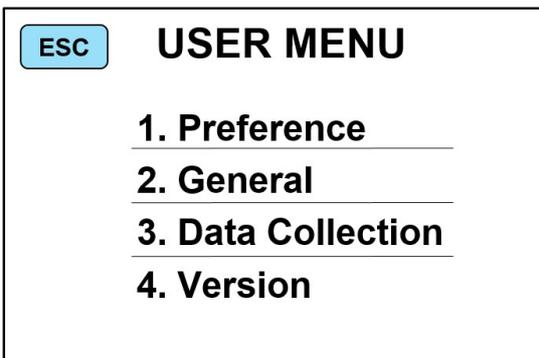
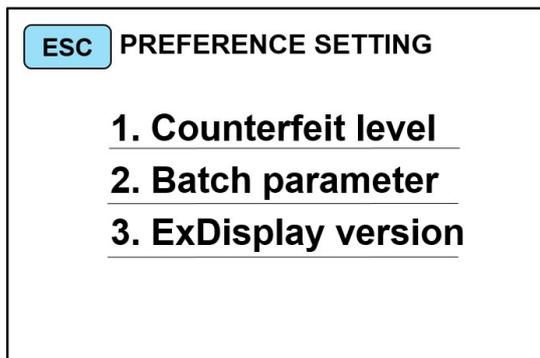

Figure 26
Figure 27
- 3) Press the “” key to enter the "USER MENU" interface, as in Figure 26. Then click the "1. Preference" key to enter the "PREFERENCE SETTING" interface, as in Figure 27. PREFERENCE SETTING" interface, as in Figure 27.